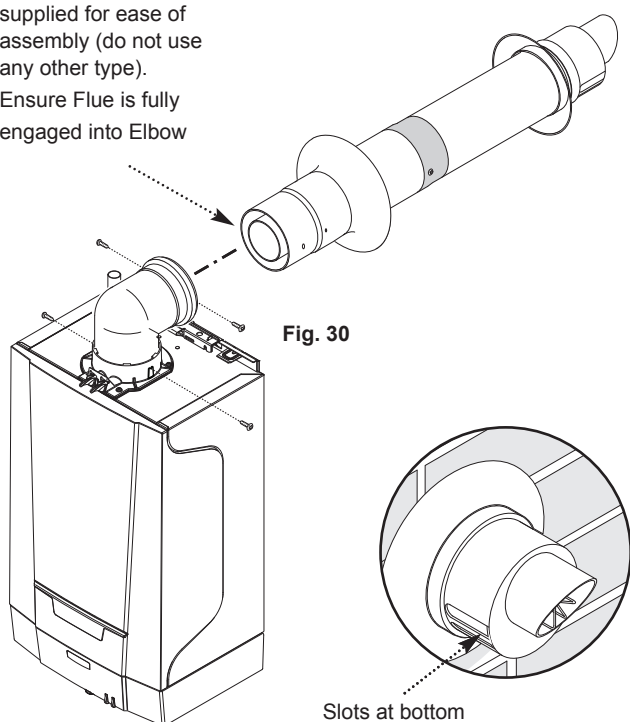

Fig. 30
12. Draw the flue back through the wall and engage it in the elbow. It may be necessary to lubricate to ease assembly of the elbow and flue (Fig. 30).
13. Ensure that the terminal is positioned with the slots to the bottom (Fig. 31). Secure the flue to the elbow with the screws supplied (Fig. 30).